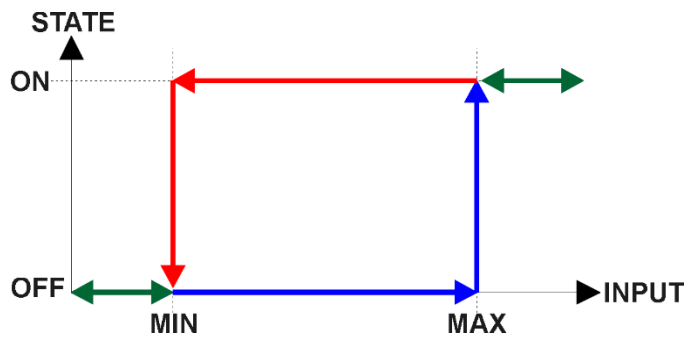

Figure 7 – Analog Input Reads as Digital
There is another type of 'digital' input that can be selected when 6112h is set to 20 = Analog On/Off. However, in this case, the input is still configured as an analog input, and therefore the objects from the Analog Input (AI) block are applied instead of those discussed above. Here, objects 2020h, 2030h and 6030h are ignored, and 6000h is written as per the logic shown in Figure 7. In this case, the MIN parameter is set by object 7120h **AI Scaling 1 FV**, and the MAX is set by 7122h **AI Scaling 2 FV**. For all other operating modes, object 6000h will always be zero.